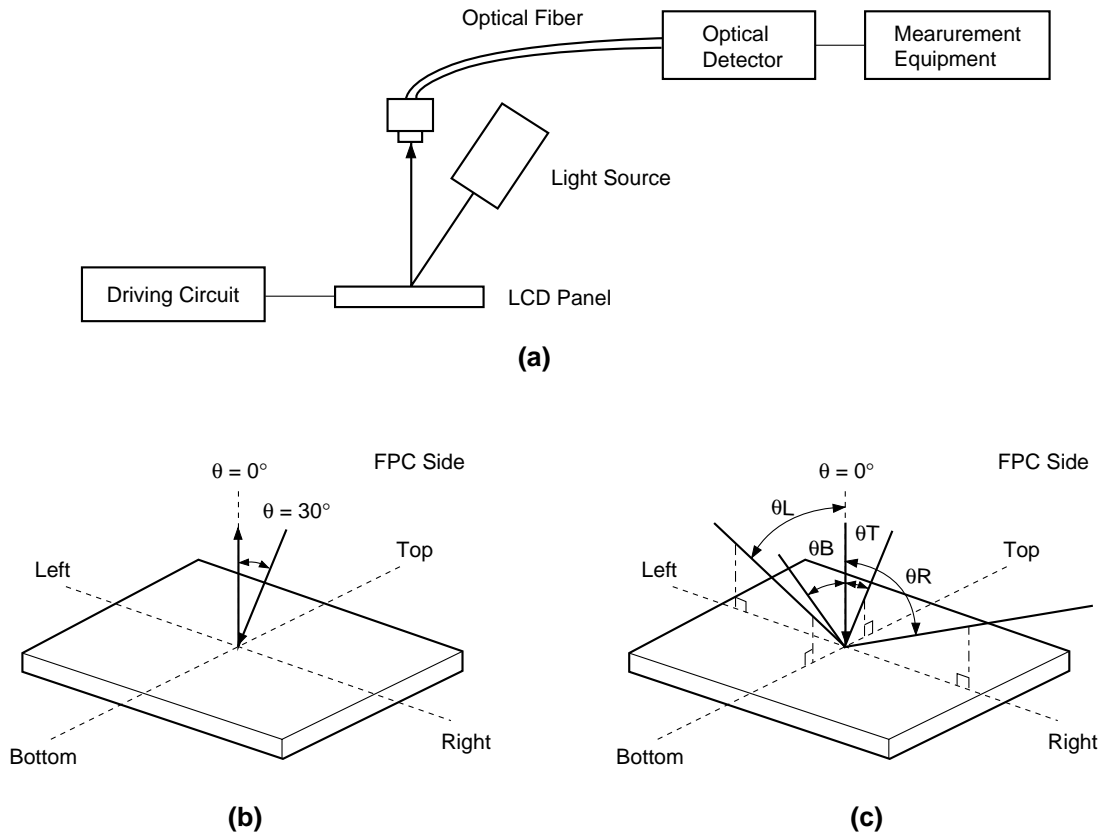

Fig. 1. Measurement System-1
1. Reflectivity (R)
In the system-1 (see Fig. 1 (a), (b)), calculate the reflectance factor by using the formula (1).
2. Contrast Ratio (CR)
In the system-1 (see Fig. 1(a), (b)), measure the reflectance factor of "White" and "Black" respectively and calculate by using the formula (2).
In the measurement system-1 (see Fig. 1 (c)), viewing area is defined by the area which makes the CR ≥ 2.
In the system-1 (see Fig.1 (a), (b)), measure the signal amplitude across the liquid crystal where R (relative) = 90% and R (relative) = 50% and R (relative) = 10% (see Fig. 4).